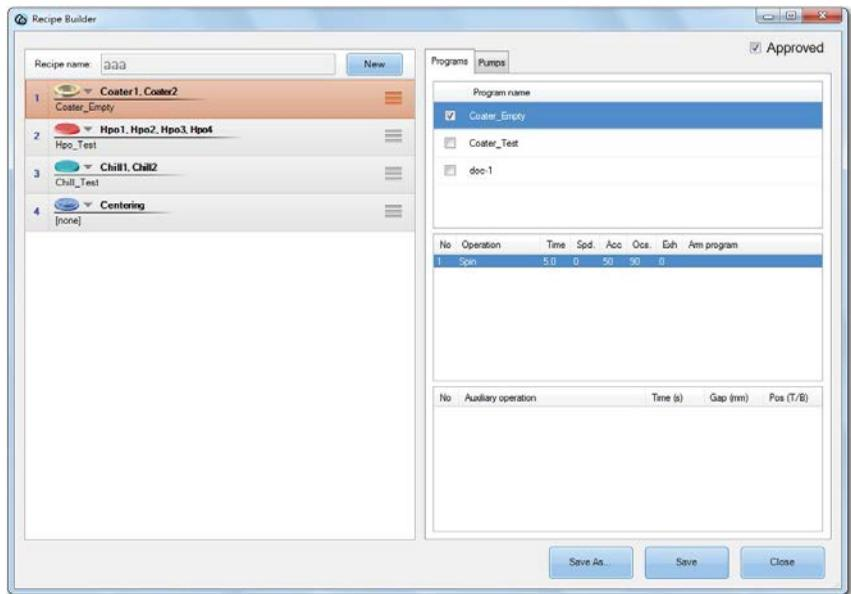

FIGURE 3-29: Editing a module program
3. Highlight the recipe of interest and click **Edit**. The Recipe Builder dialog box opens, showing the flow of the recipe. See Figure 3-29.